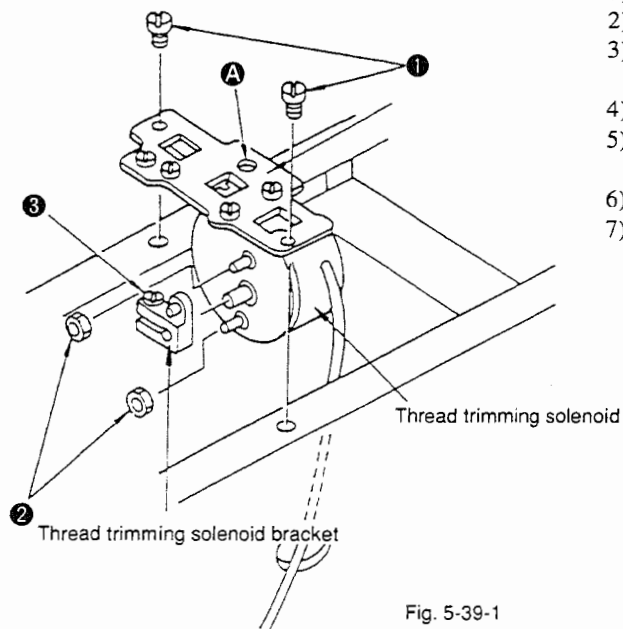

Fig. 5-39-1
- To fix the thread trimming solenoid bracket, press the tension release shaft arm against the cam follower after fixing the thread trimmer mounting base . Then, insert a screwdriver through **A** of the thread trimmer mounting base, and tighten setscrew **B** (Fig. 5-39-1). At this time, adjust the clearance **E** between the thread trimming solenoid bracket and the thread trimmer mounting base to 0 mm. (Fig. 5-39-2).